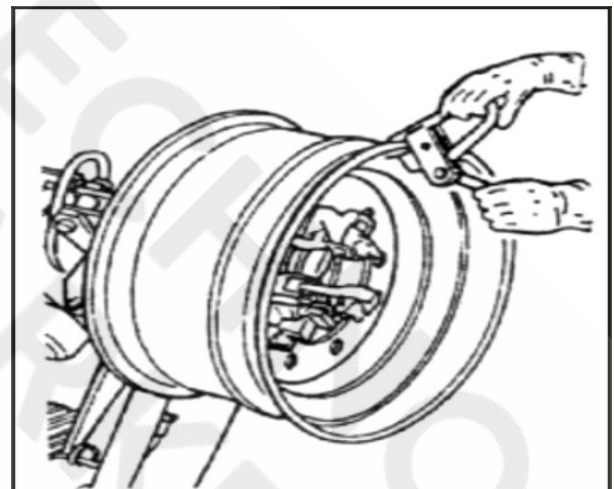

Fig 18
3) Clamp the pliers at the top position of the external edge of the rim.(Fig18)